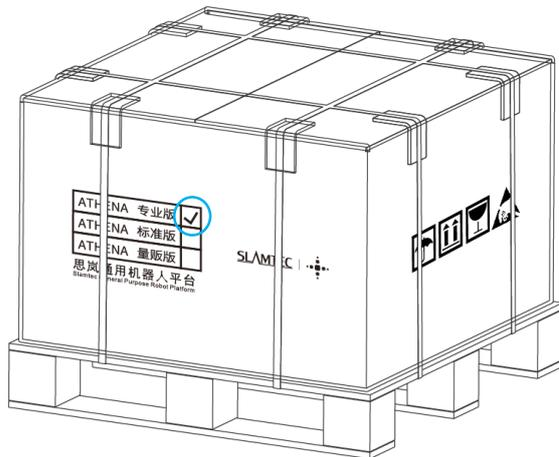
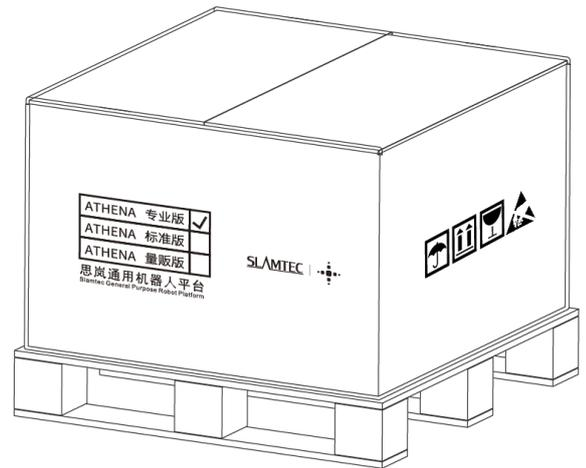

Figure 1
Figure 2
1. After receiving Athena, please check whether the package is in good condition and there is a checkmark on the box to shown it is Athena inside, as shown in Figure 1. If the whole package is intact and it is Athena inside, please cut the packing straps through and remove all of them, as shown in Figure 2.